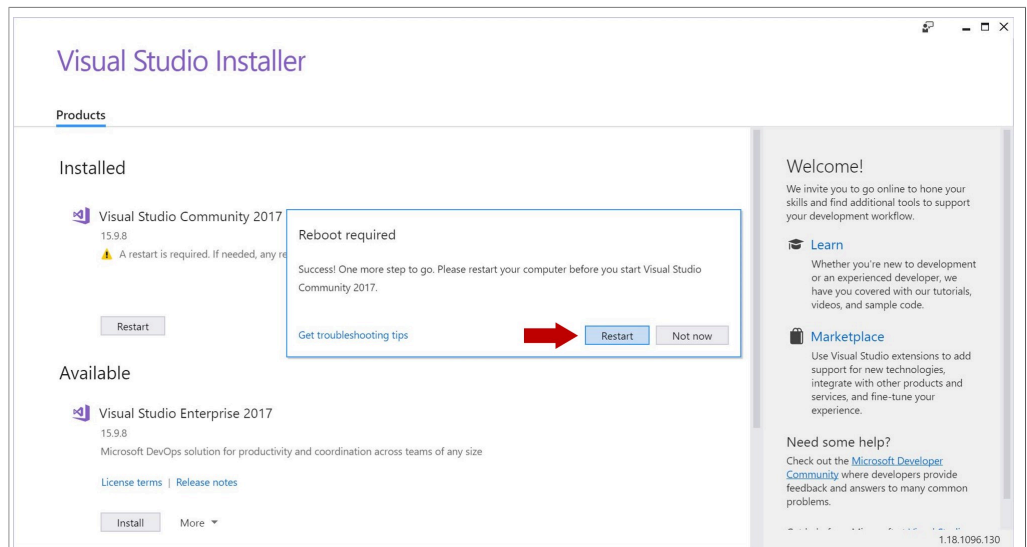

Figure 97. Visual Studio installation - reboot
- 6. After the installation is completed, you might be asked to reboot your system as shown in Figure 97: